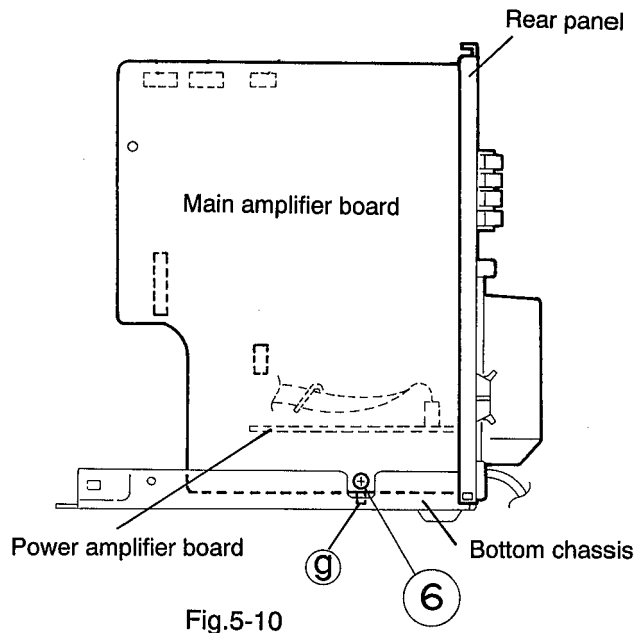

Fig.5-10
(See Fig. 5-10)
8. Remove the rear panel assembly from the bottom chassis by disengaging the protrusion ⑤ of the main amplifier board from the cutout in the bottom chassis. (See Fig. 5-10)